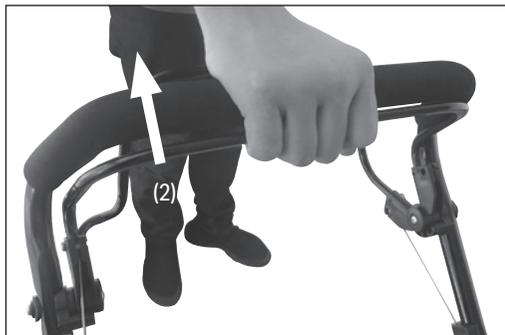

Fig. 17
7.3 Drive Control Lever (Fig.17)
- To self-propel the lawnmower, switch the engine on, pull the start/stop lever, then squeeze and hold the drive lever (2).
- To stop, release the drive lever (2).